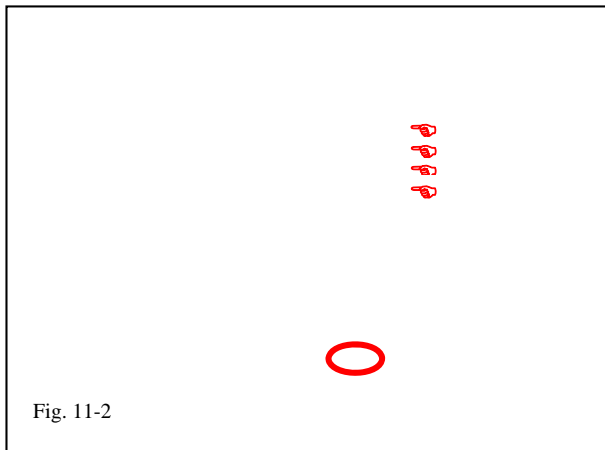

Fig. 11-2
- (e) Confirm that the information displayed on the Vehicle Connection Wizard is correct. If not, make the appropriate selections from the drop down menus, then click “**Next**” (Fig. 11-2).